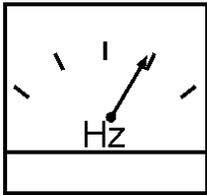

Figure 45. Frequency Meter
6. The generator's frequency meter (Figure 45) should be displaying the 50 cycle output frequency in **HERTZ**.